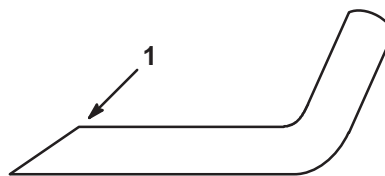

Figure 26
5. **SHARPENING BLADE** – Using a file, sharpen top side of blade and maintain original cutting angle (Fig. 26). The blade will remain balanced if same amount of material is removed from both cutting edges.